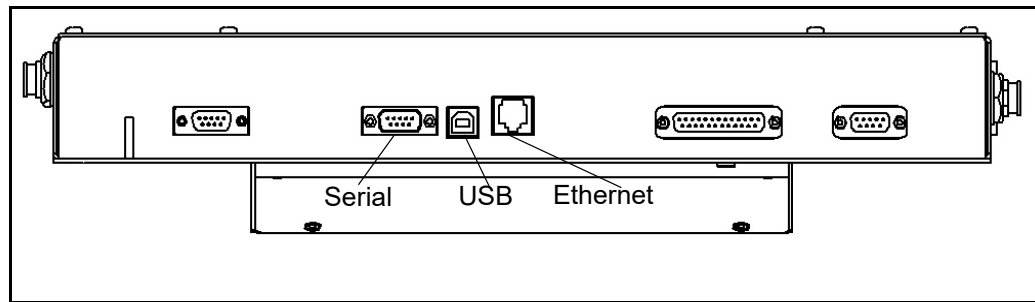

Figure 13
2. Connect the Ethernet cable (supplied) to the CubiScan 125’s Ethernet port, as shown in Figure 13.
1. Connect the USB cable to the CubiScan 125's USB port located on the controller box, as shown in Figure 13.
2. Connect the serial cable to the CubiScan 125's serial port, as shown in Figure 13.